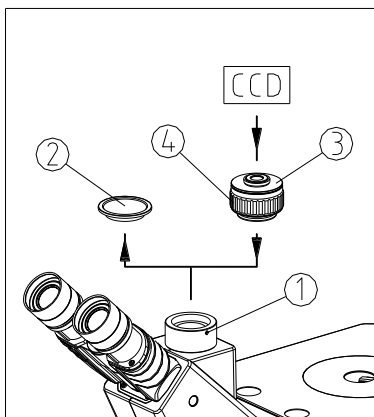

Fig. 38
(1) Loosen the lock-screw (1) on the trinocular head and get down the dust-cover (2). (See Fig.38)
(2) Get down the dust-cover caps of the TV adapter (3) and the CCD. Insert the screw thread (3) into the CCD, then install the TV device which with CCD into the trinocular tube. Screw down the lock-screw (1) tightly.